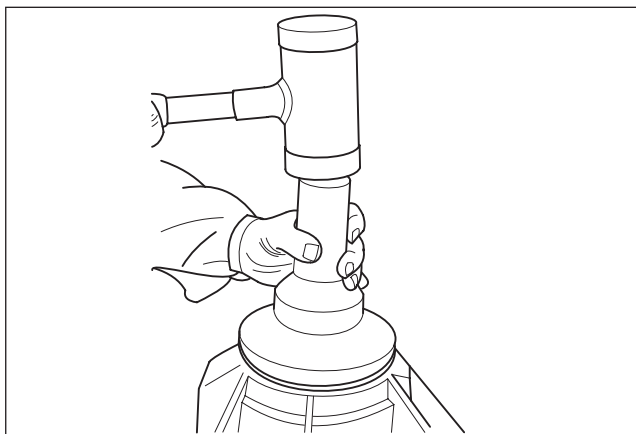

Fig. 4.10
5. Press seal into the bore in carrier. When service tool contacts the carrier the seal will be correctly positioned into the bore. (Fig. 4.10)